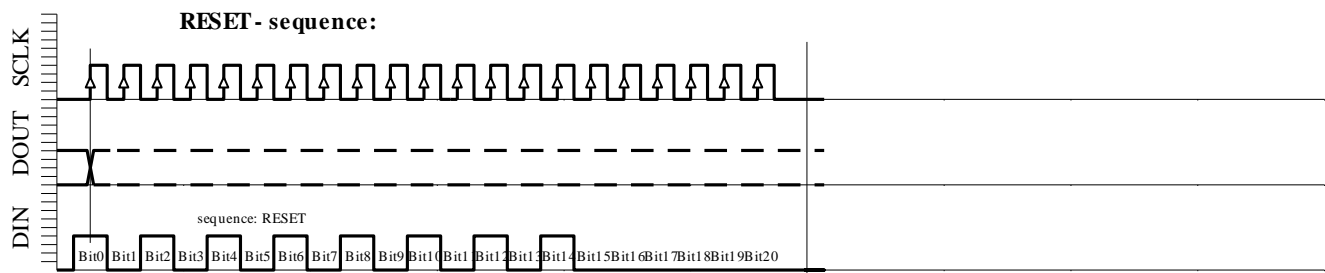

Fig. 6e: RESET sequence (21 bit)
- ✦ RESET sequence (Figure 6e)
The RESET sequence is special as the module in any state recognizes its unique pattern. By consequence, it can be used to restart if synchronization between the microcontroller and the MS5541C has been lost. This sequence is 21-bit long. The DOUT signal might change during that sequence (see Fig. 6e). It is recommended to send the RESET sequence before each CONVERSION sequence to avoid hanging up the protocol permanently in case of electrical interference.